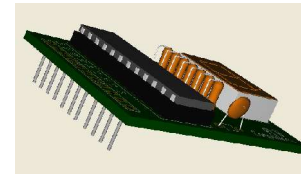

Fig 1.1 – Header Pin Arrangement
4. Header Pins: These pins can be broken into groups of any desired amount. All the header pins will be placed in the section of 11 holes adjacent to the 24 pin socket. To ensure that the pins remain straight and aligned, plug the long end into a breadboard and place the board over the shorter end of the pins while soldering. **SOLDER THE PINS TO THE TOP OF THE BOARD.** This will leave the long pins straight and protruding from the bottom (Fig 1.1). You are given one extra header pin.